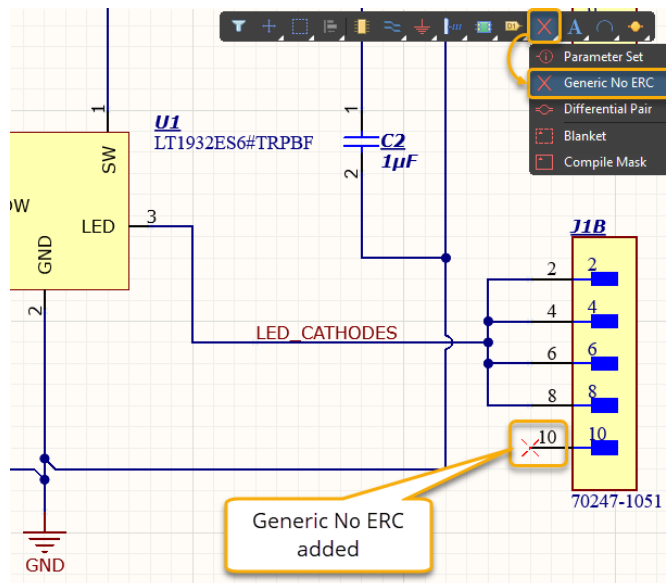

Figure 16. Active Tool Bar, selection of Generic No ERC
42. Next, apply a **Generic No ERC** marker  on the pin of J1B-10. The **Generic No ERC** marker can be found on the **Active Bar** with a right mouse click on the **Parameter Set** icon to select from Pop-Down menu. See Figure 16 below.